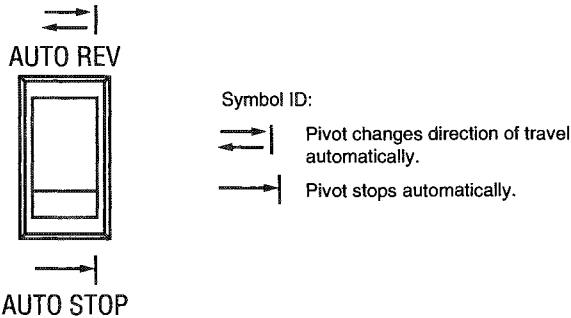

Figure 1.22
reverse/auto stop option is installed, the operator may choose to either stop the machine when it reaches the “trip structure” or have the pivot automatically change it’s direction of travel and continue to run. This can be selected with the Auto Reverse/Auto Stop Switch as illustrated in figure 1.22.
- If drive unit mounted auto stop or auto reverse/stop has been installed as an option, then the operator must also enable this feature in SET UP Group 4 — “Auto Reverse/Stop Enable”. This allows the switch in figure 1.22 to be active and causes the equipment to change direction if the “Auto Reverse” position is selected.
- If only the drive unit mounted auto stop option has been purchased without the auto reverse feature, then the position of the switch in figure 1.22 does not matter. The equipment will stop when the actuator arm is tripped regardless of the position of the switch.